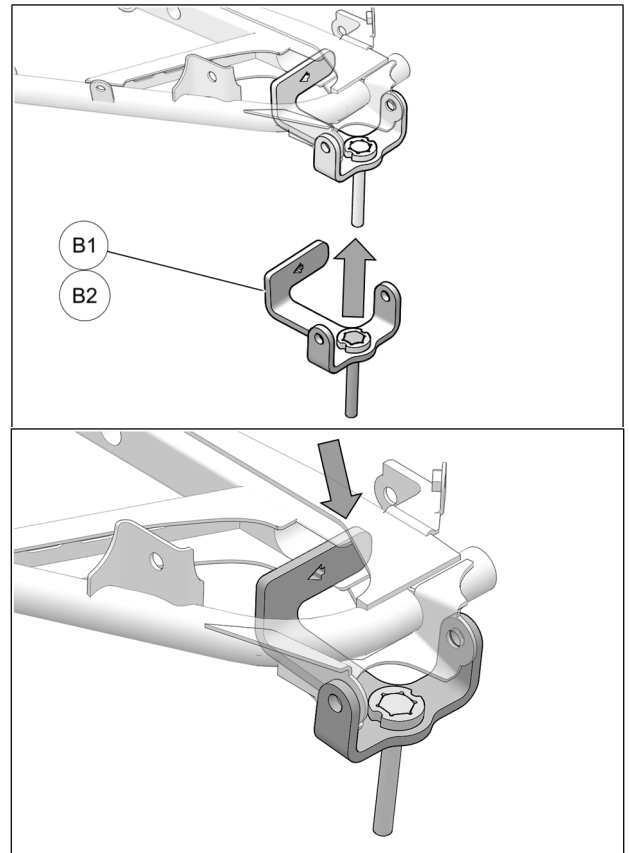

Fig. 7
6. Install the anchor bracket (**B1-B2**) under the suspension arm. Make sure the bracket's L-shaped end is inserted in the suspension arm. See Fig. 7